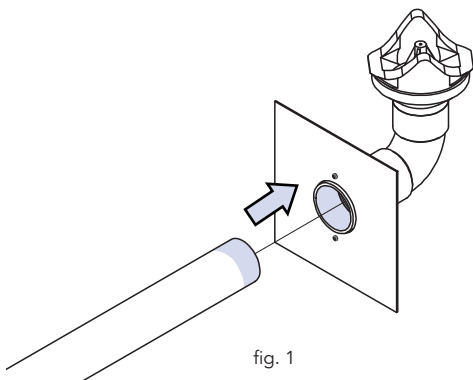

fig. 1
3. Apply Watermark certificated Type N solvent cement on the end of the Watermarked AS/NZS 1260 40mm PVC pipe and insert into the Aqua Cooler drain outlet fitting. Firstly to the inside of the M Series drain fitting and then to the external surface of the pipe end (marked area). (See Figure.1) #
5. Follow the direction line in figure.1 to connect the PVC pipe to the full depth of the socket and hold the bond joint in position for at least 30 seconds.